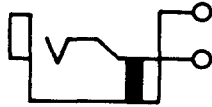

Fig. 6—223-Type Jack
2.06 223A, C, AM and CM: These single-mounted jacks (Fig. 6) are used with the 1D, 1E, 153, 209, 241, 305, 327, 328, 347, 373, and 464 plugs. These jacks are heavily insulated. They are arranged for use with the 347 and similar-type plugs. These jacks are mounted with the springs in a vertical plane.